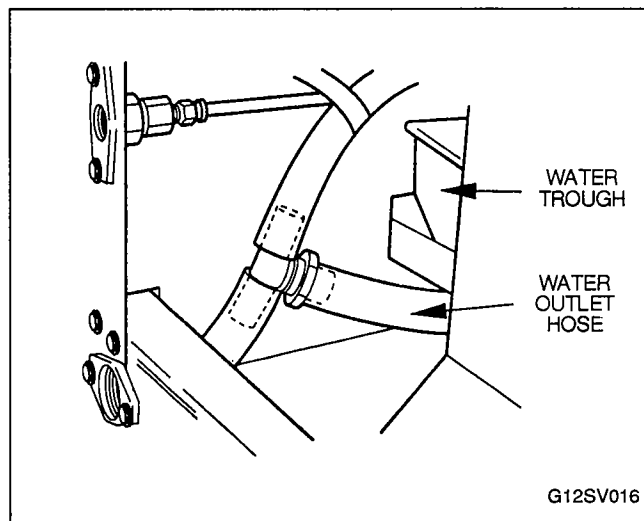

FIGURE 14. DISCONNECT WATER OUTLET HOSE
2. Disconnect water outlet hose (Figure 14).